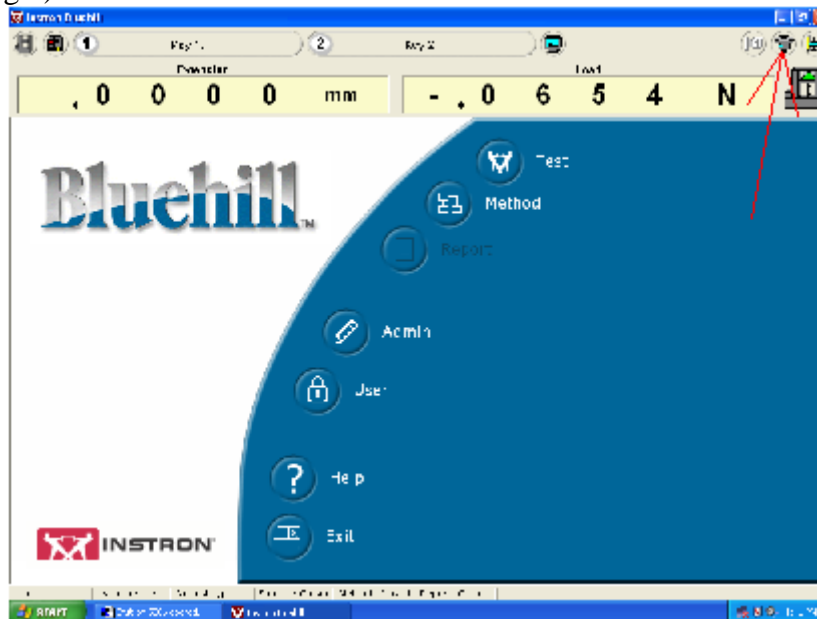

Figure 1: Bluehill program Home screen
4. Open the Bluehill program from the computer’s desktop. Enter “operator” for the user name and password. You will now be on the Home screen (Fig. 1). To get back to this screen at any time, click on the Bluehill icon, which will be on the upper left side of the screen when you are not on the home screen.
5. Click on the Load Cell icon in the upper right of the screen, and calibrate the load cell (Fig 1).